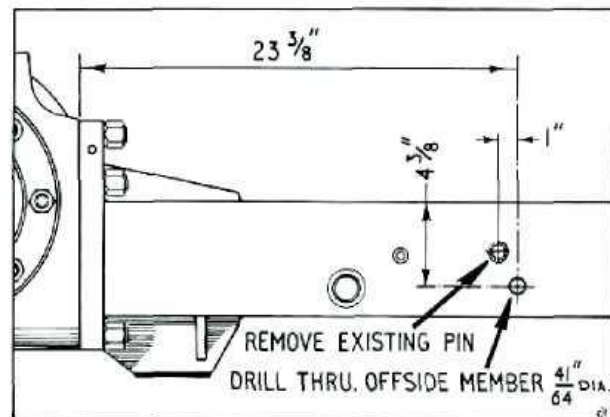

Fig. J.16 — Chassis Modification.
2. Drill a $41/64$ " dia. hole through the inner and outer webs of the offside chassis member as shown in Fig. J.16 and remove the existing pivot pin.